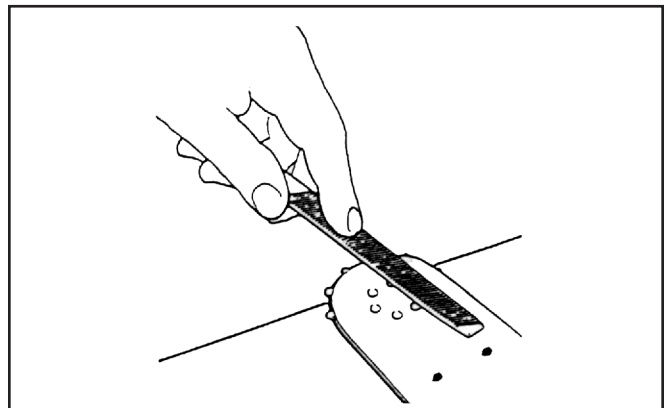

Figure 30. Filing Rivets
7. Using a flat file, shave the rivet heads to a uniform height that is as close to the bar body as possible. See Figure 30